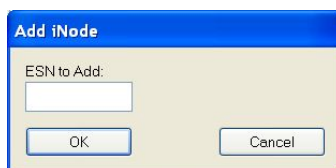

Figure 6. Add iNode.
- 5) Add the ESNs of all iNodes the CCU-RTU will collect, by tapping **Action > Add iNode...** An entry box will pop up, shown in Figure 6. Enter the first iNode ESN and tap **OK**. Repeat this step until you have entered all iNodes.